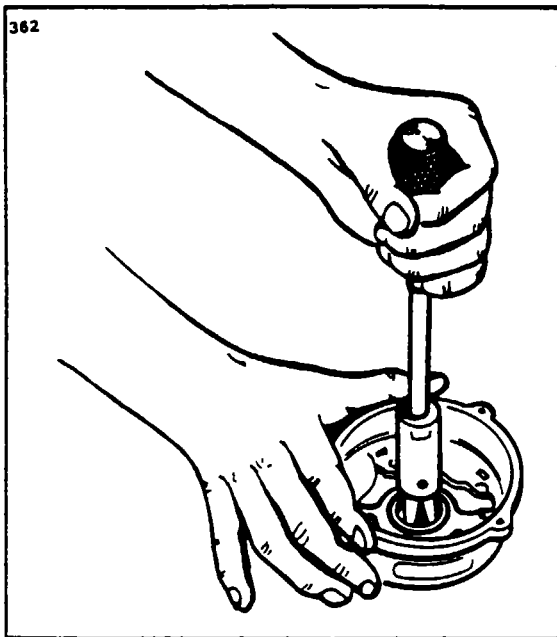

Figure 11-23. Removal of Slip Ring End Bearing
- e. To remove the slip ring end bearing and grease seal, it will be necessary to have a hook type or impact type bearing puller as shown in Figure 11-23. Do not remove the bearing unless replacement is necessary.